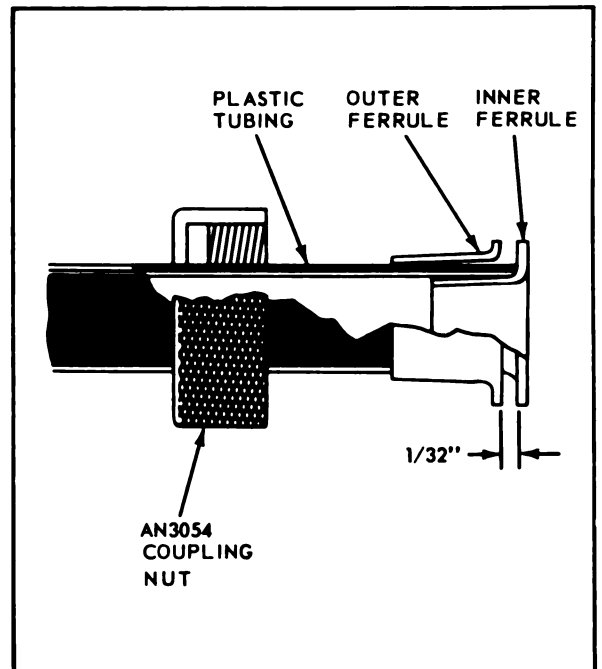

Figure 11-23. Installing Two-Piece Ferrule On Non-Metallic Conduit
d. Move female ferrule toward end of conduit over male ferrule, until the ferrule flanges are a maximum of 1/32 inch apart as shown in figure 11-23.